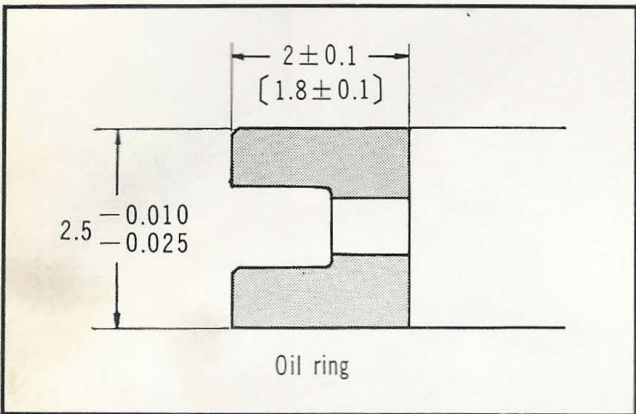

Figure 3-52. Piston oil ring [] for C50, C50M, S50
- (8) Oil ring [] are for C50, C50M, S50 (Fig. 3-52, 3-53)